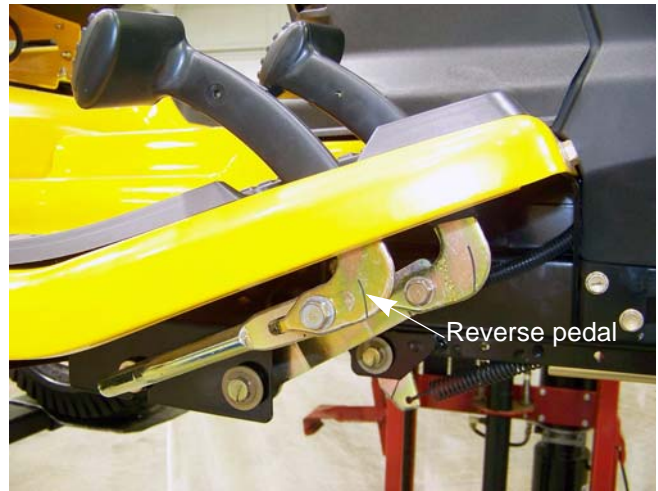

Figure 5.25
2. Remove the screw that holds the reverse pedal to the pedal shaft using a 9/16" wrench. See Figure 5.25.